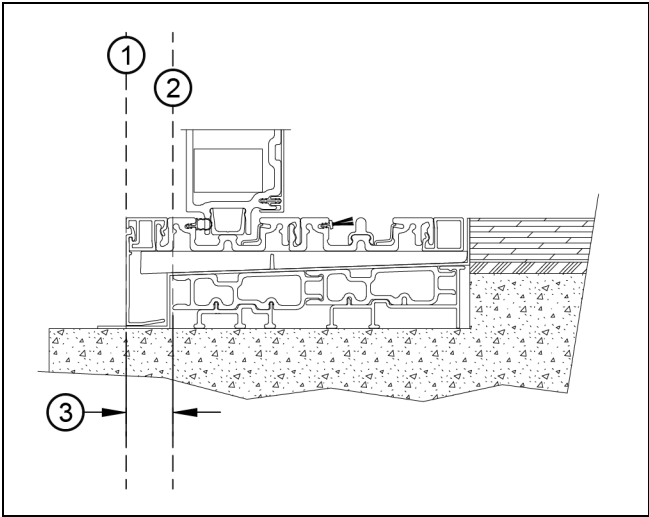
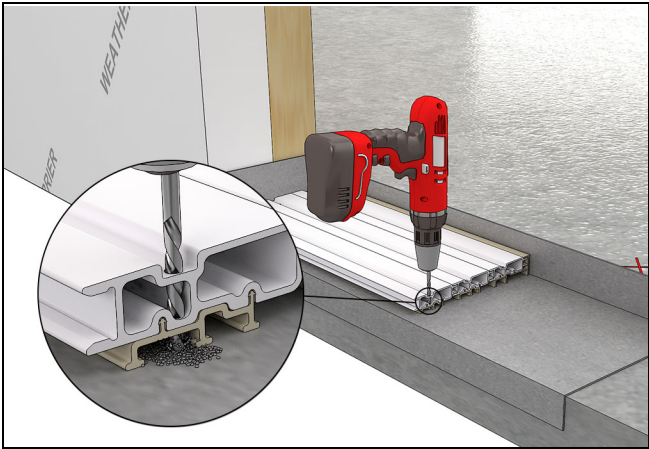

Figure 6
Figure 7
3. Set the sill slope in the slot at the desired location. Using the pre-drilled holes in the sill slope as a guide, drill through both walls of the sill slope and into the optional pre-panning and substrate. See Figure 6 and Figure 7.